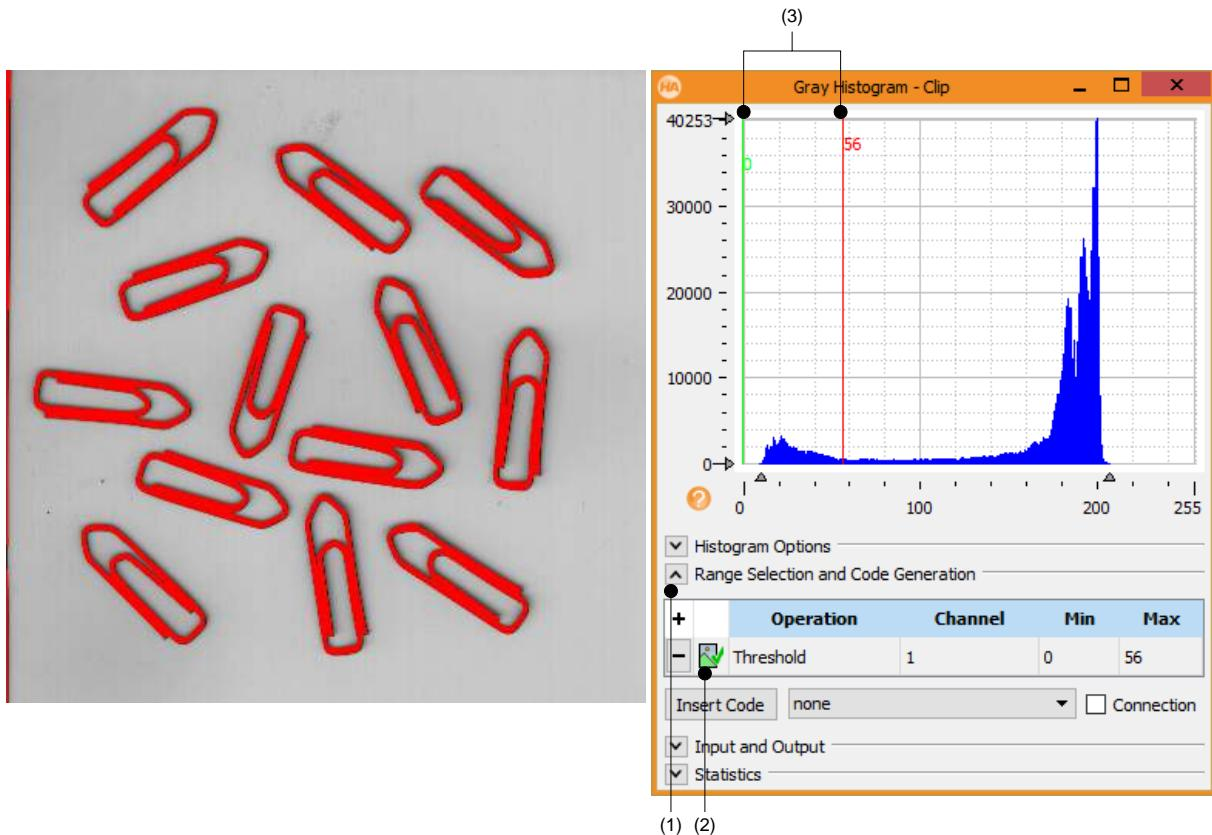

Figure 4.7: Determining threshold bounds interactively using the gray histogram.
Make sure `Range Selection` and `Code Generation` is visible in the histogram window (1), see figure 4.7. Select `Threshold` in the column `Operation` of the gray histogram window, and click the icon next to `Threshold` (2) to visualize the operation. Now, you can try different threshold bounds by altering the values in `Min` and `Max` or by dragging the lines (3) in the histogram area. Any changes to these values are immediately visualized in the active graphics window. The values 0 and 56 seem suitable for the lower and upper bounds, respectively.